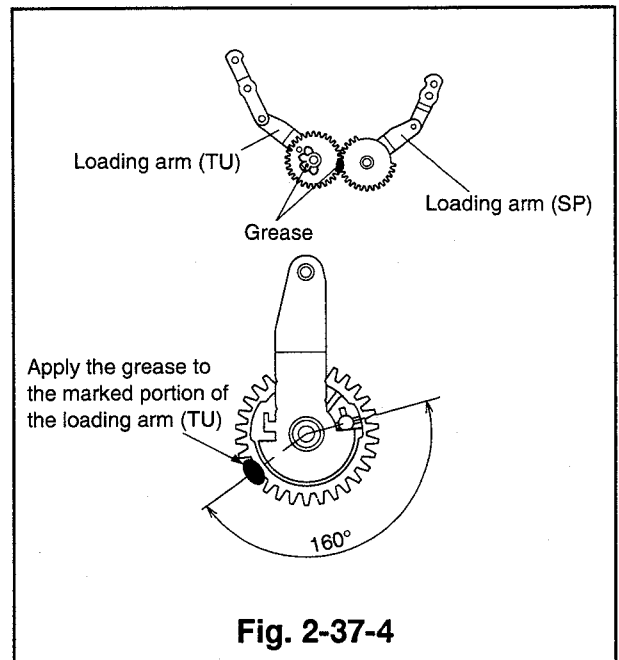

Fig. 2-37-4
- ③ Apply grease(G)[859D055O50] to the area, which touches the cogwheel of the loading arm(TU) when the loading arms(SP and TU) are shifted fully to the loading direction, and grease(G)[859D055O50] to the gear portion which gears with the plate cam B. (Refer to Fig.2-37-4.)